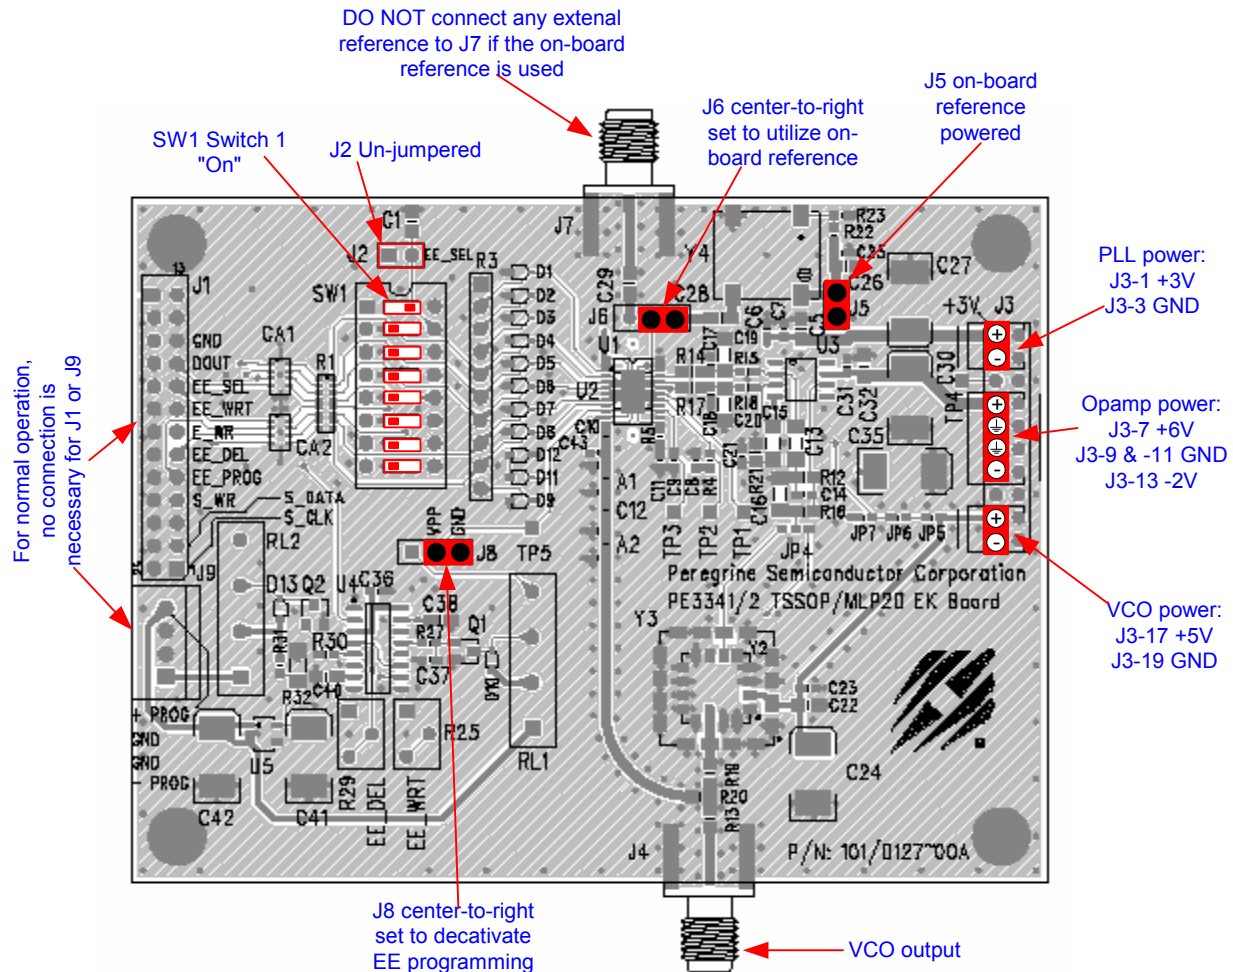
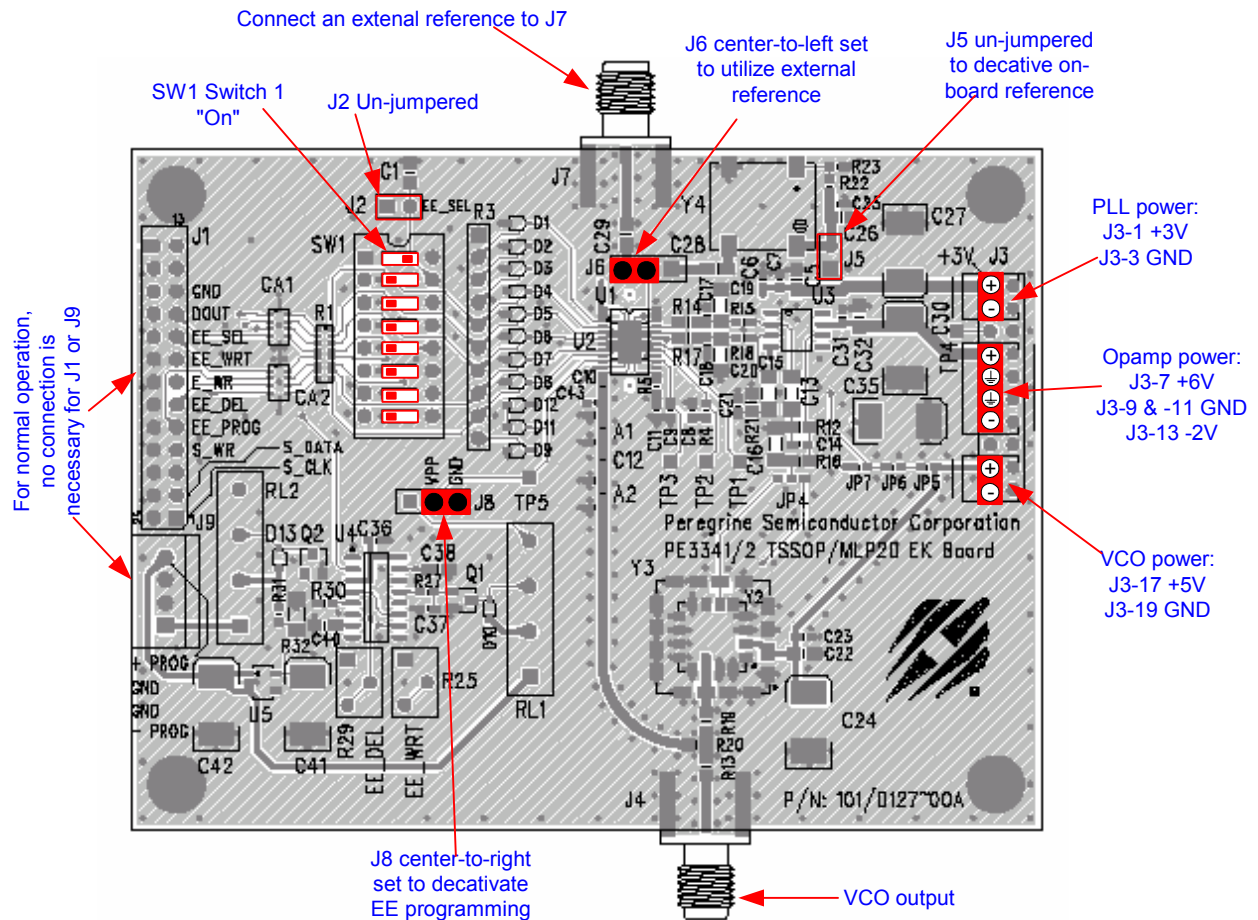

Figure 1. Evaluation Kit Default Jumper & Switch Settings Using on-board Reference.
Figure 2. Jumper Setting to Use an External Reference
The PE3342 Evaluation Board is configured with an on-board VCO, TCXO reference and a second order *active* loop filter. The VCO tuning range is *approximately 190 MHz with middle frequency at 2610+/- 25* for a tuning voltage 0.5 to 4.5 volts. The reference oscillator is 20 MHz. The loop filter is designed for a 1 MHz comparison frequency and a 2600 MHz output frequency with unity gain crossover at 66 kHz, phase margin of 65 degrees and 1.2 dB of peaking. Unless noted, the data provided was measured in this configuration with the default jumper settings shown in Figure 1.
Two jumpers (J5 & J6) configure the Evaluation Board to operate with either the on-board reference oscillator (TCXO) or an external reference applied to J7. Figure 1 shows the proper configuration for utilizing the on-board TCXO reference. J6 in the middle-to-right connection as shown connects the output of the TCXO to the PLL f_r input, while J5 installed provides power to the TCXO. Do not connect any external reference to J7 if the on-board reference is selected. To use an external reference, place J6 in the middle-to-left connection which connects the PLL f_r input to the J7 SMA connector and remove the jumper on J5 to power-down the TCXO. Figure 2 shows the configuration of using an external reference.
The default jumper and switch settings are shown in Figure 1, which place the part into EEPROM mode utilizing the on-board reference. Peregrine Semiconductor recommends that the default settings be used initially to bring up the evaluation board and duplicate the enclosed measured data.
1. Verify a jumper is placed on the connector J5 and REF Selector (J6) is positioned in the middle-to-right connection to select the on-board reference as shown in Figure 1.
4. Connect power supply cable to the Evaluation Kit board as shown in Figure 1. Note that the red connector of the power cable is always the positive and the black connector is ground in a 2-wire cable or the negative in a 4-wire cable.